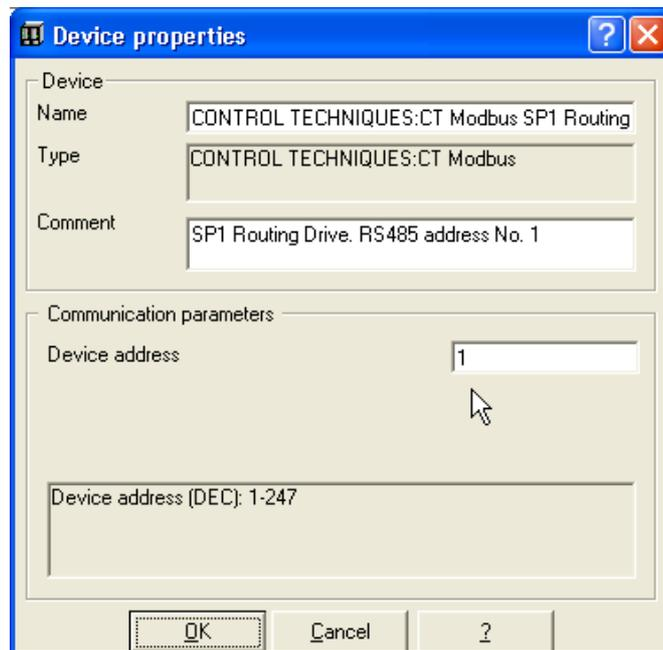

Fig. 7.
3.6 Double-click on the previous highlighted protocol. The Device Properties window will come up. On the comment box, something meaningful can be written. On the *Device Address* field, the SP RS485 Serial address must be introduced (Pr. 11.23). In this article, SP1 is referred as the SP with serial address number 1. See Fig. 7.